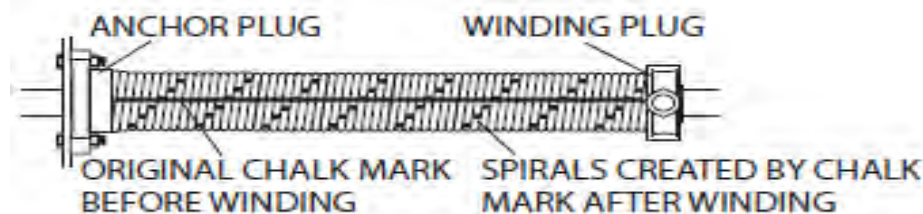

Figure 24
Step 30: At this point you are ready to wind the torsion spring(s). Putting tension on springs must be done with safety in mind first. Place a straight line on the springs with soap stone, chalk, paint, etc which can be used to count the number of turns on the spring as they are applied. See figure 24. Make sure the door is level and place a pair of locking pliers above one roller on each side of the door to prevent it from rising once the springs are wound.